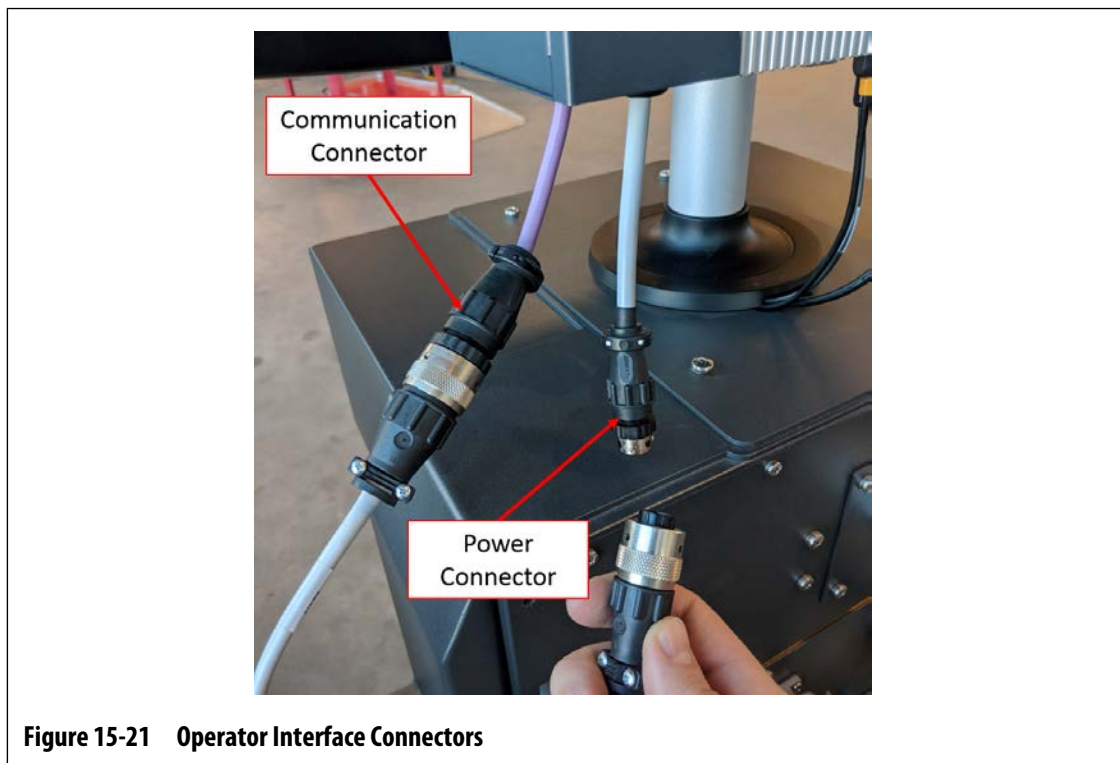

Figure 15-21 Operator Interface Connectors
3. At the bottom of the MCU enclosure, find and disconnect the Power and Communication connectors that come from the controller mainframe. Refer to Figure 15-21.